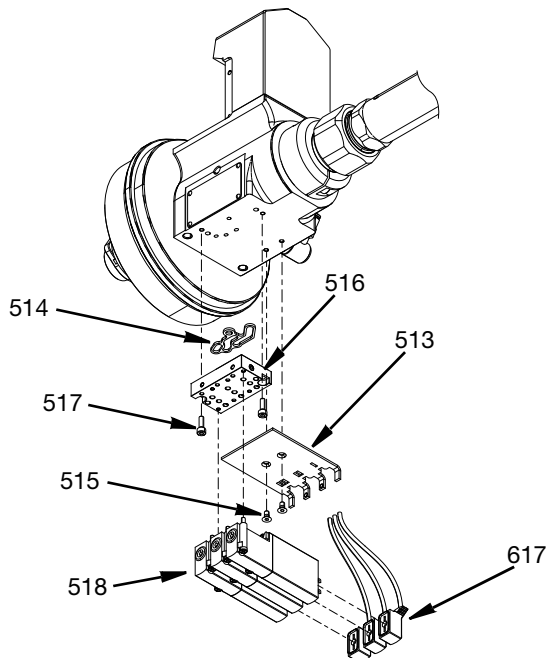

FIG. 36
3. Attach inner cover (513) to the swivel housing assembly (511) with two M3 flathead screws (515) and torque to 8 in-lb (0.9 N•m).
4. Apply a thin coat of lithium grease to air gasket (514). Locate air valve manifold (516) dowel pins onto the swivel housing assembly (511). Apply anti seize and insert two M3 SHCS fastener screws (517) and torque to 8 in-lb (0.9 N•m).
- Attach air valves (518) with their included captured screws onto the air valve manifold (516). Install solenoid valve cable connections (617) to air valves. See FIG. 36 page 25.